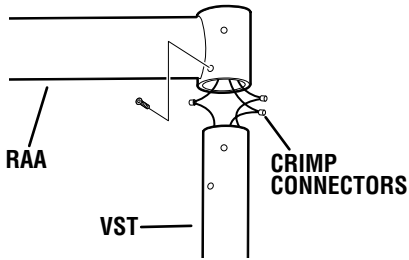

Figure 5. VST to RAA Installation
b. Observe the wire colors and connect the wires from the radial arm to the corresponding BOM/VST wires using crimp connectors. See figure 5.